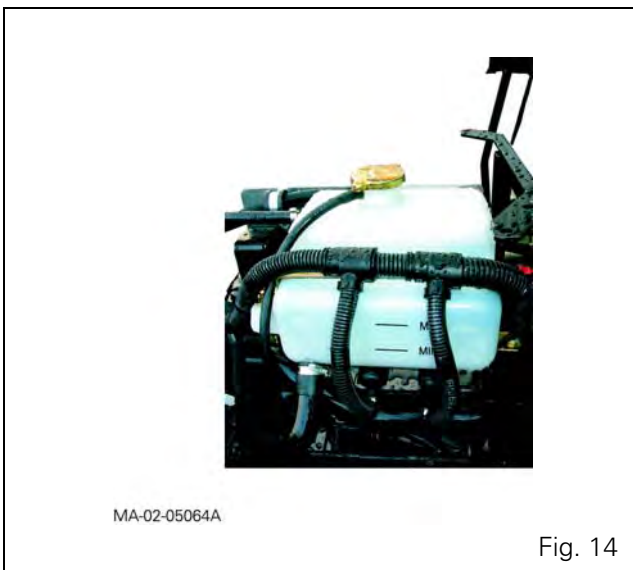

Fig. 14
21. Remove the screws attaching the engine to the gearbox (Fig. 14 depending on assembly). Mark their length and position.
Tighten (Fig. 14):
- **Topping up** of coolant, to the maximum level marked on the expansion tank (Fig. 14).